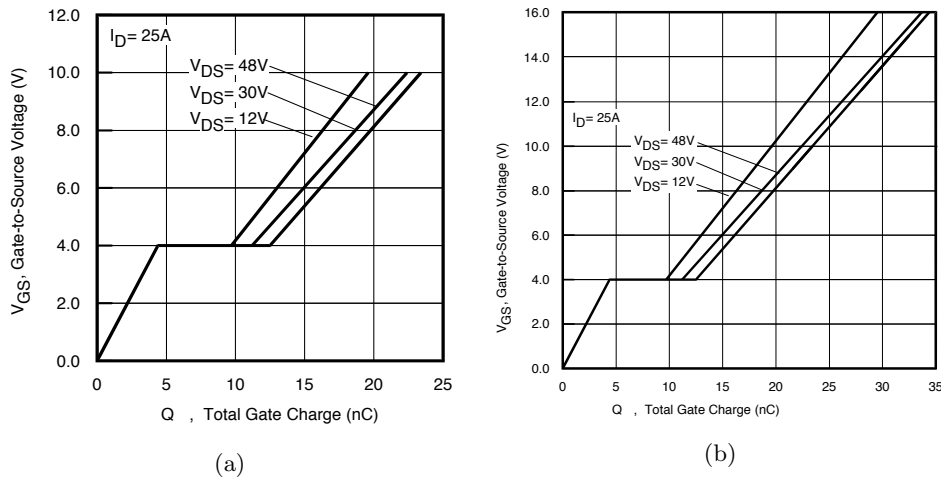

Figure 5: Typical Gate Charge vs. Gate-to-Source Voltage (a) from the IRFR3806 datasheet10 (b) linearly extrapolated to  $V_{GS} = 15V$ .
**Gate Charge ( $Q_G$ )** Because the turn on speed of the MOSFET is partially determined by the gate charge, gate charge should be minimized. The gate charge listed on a datasheet is typically the gate charge at a  $V_{GS} = 5V$ . If the HIP4086 has a supply voltage of 15V then  $V_{GS}$  will be 15V. Figure 5 shows a plot of  $Q_G$  vs  $V_{GS}$  for the MOSFET on the V4 board. From the plot  $Q_G = 33nC$  at  $V_{GS}=15V$
$Q_{GATE} = 32nC$ , gate Charge of the MOSFET at  $V_{GS} = 15V$  and  $V_{DS} \approx 30V$  from Figure 5.